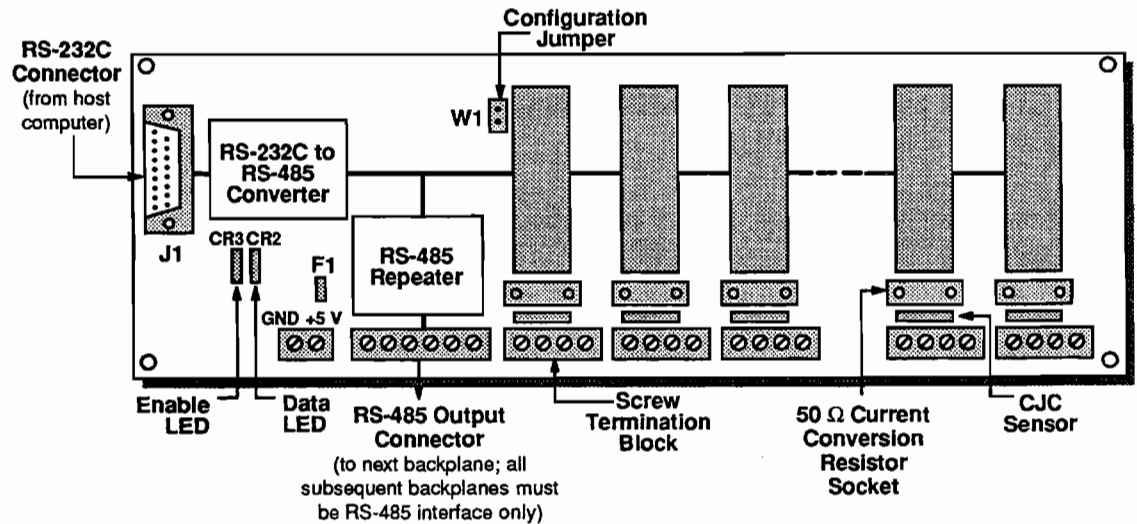

Figure 1-9. 6BP16-2 Backplane
- **6BP16-2 Backplane** - The 6BP16-2 backplane, shown in Figure 1-9, is a 16-channel backplane. It has an RS-485 output connector for connecting to the next 6B Series backplane or 6B50 digital I/O board in a network and an RS-232C connector for connecting to a host computer. It also has an RS-232C-to-RS-485 converter that allows the 6B module to communicate with the host and an RS-485 repeater that allows you to connect the backplane to another backplane or board at a distance of up to 4000 feet.